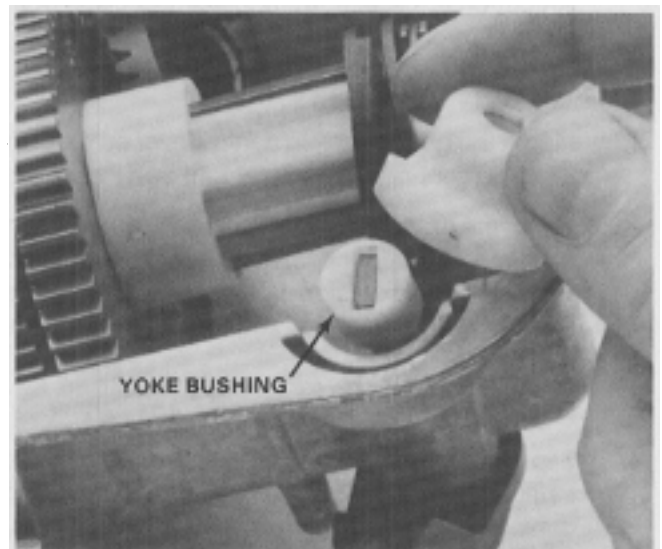

Figure 50
14. Slide the yoke bushing onto the lower end of the shift fork then secure the shift fork with the white nylon shift fork retainer. See Figure 50.